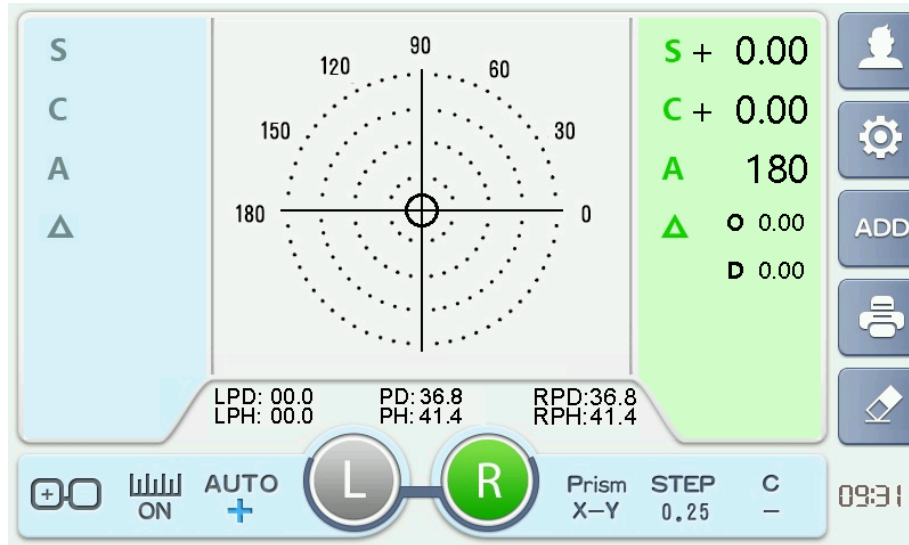

Figure 6-2 Measurement screen
3. Measurement interface as showing in figure 6-2 will appear after initialization complete(about 6 seconds). Measurement interface mode can be set in “measurement mode” item in measurement parameters menu.